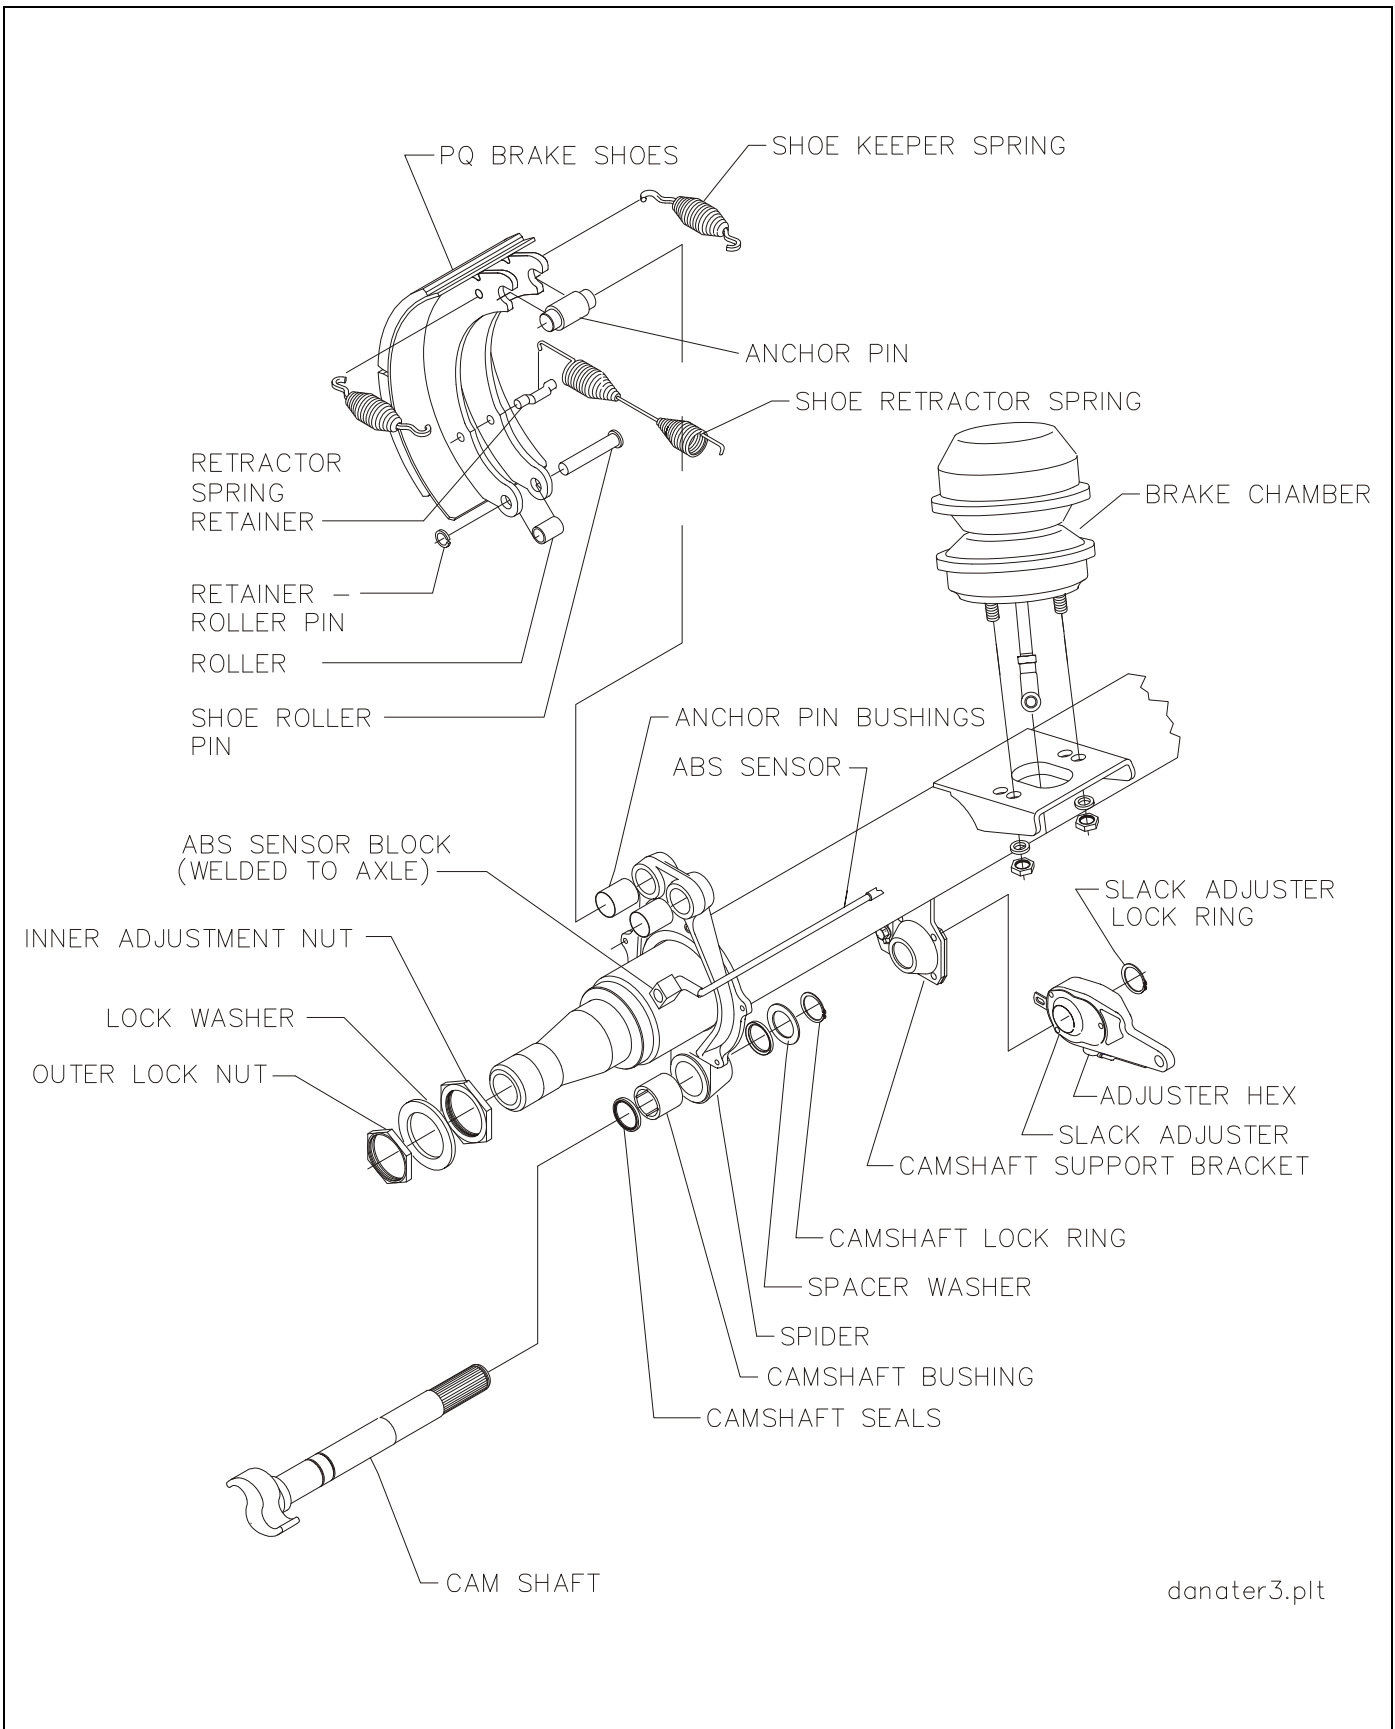

Figure 4-9: Axle and Brake Assembly
4. Disconnect the slack adjuster from the connecting rod by removing the clevis pin (**See Figure 4-9.**)
3. Remove drum assembly **(See Figure 4-9.)**